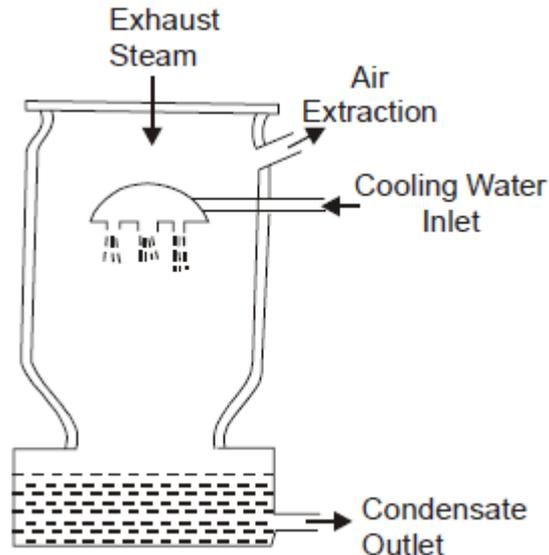

Fig. 9.1 Low level jet condensers
- ❖ In this condenser (Fig. 9.1) water is sprayed through jets and it mixes with steam.